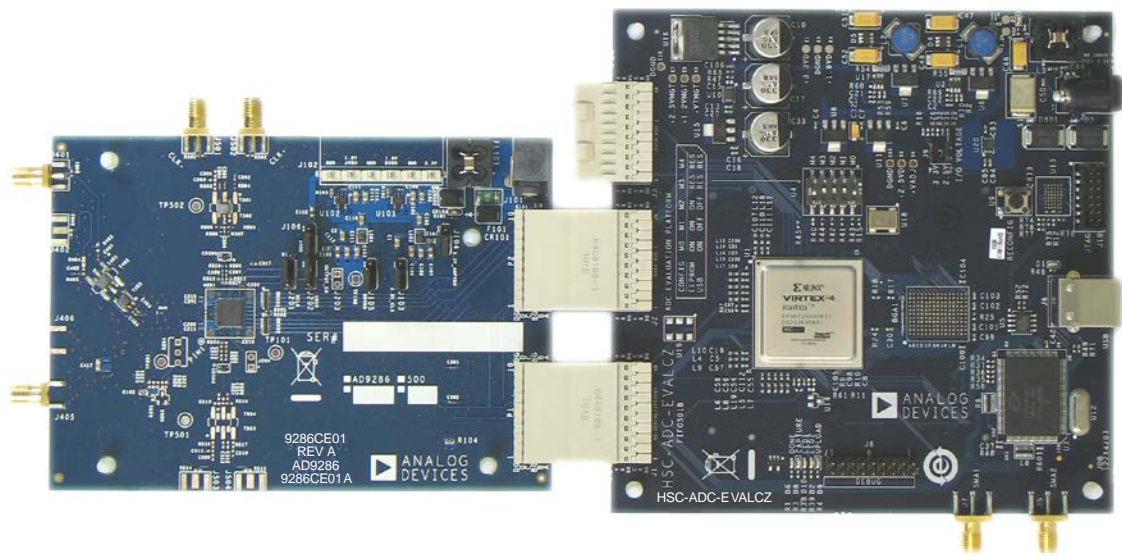
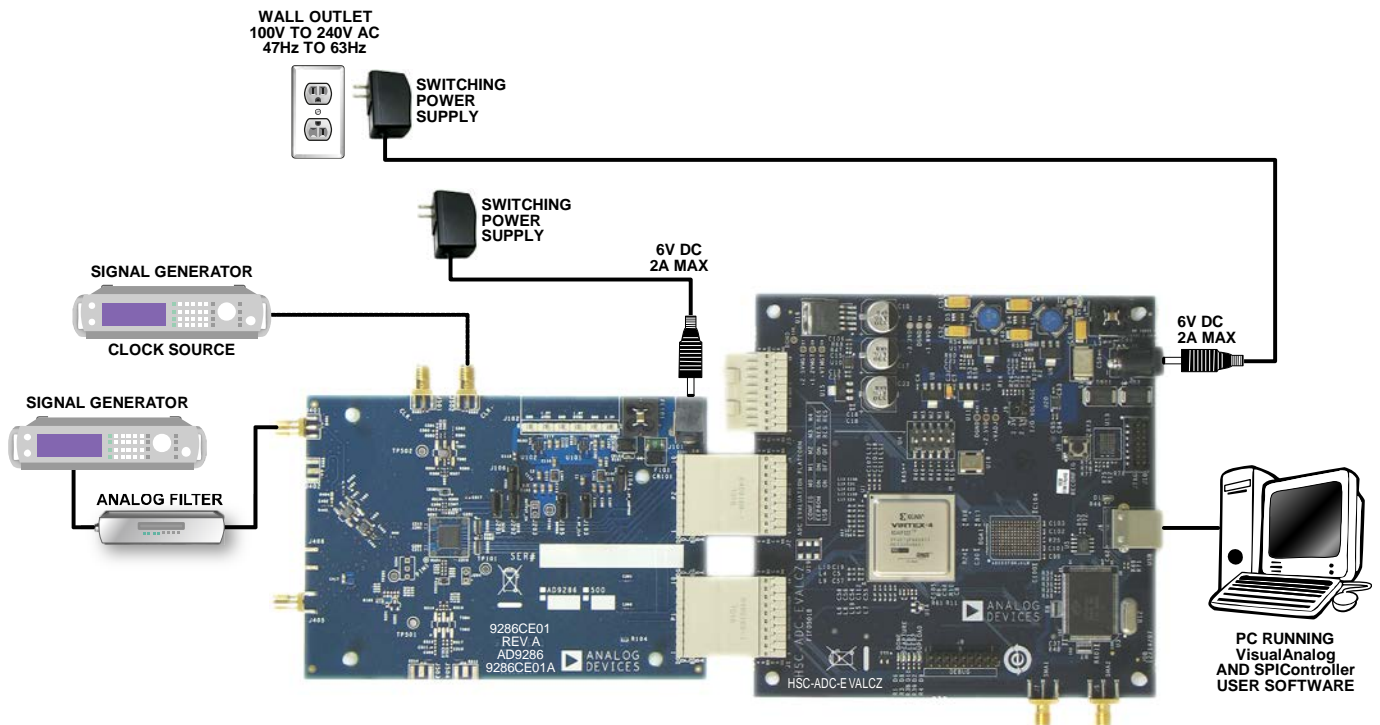

Figure 1. **AD9286** Evaluation Board and **HSC-ADC-EVALCZ** Data Capture Board
Figure 2. Evaluation Board Connection
The AD9286 evaluation board provides all of the support circuitry required to operate the AD9286 in its various modes and configurations. Figure 2 shows the typical bench characterization setup used to evaluate the ac performance of the AD9286. It is critical that the signal source used for the analog input and clock have very low phase noise ( $<1$  ps rms jitter) to realize the optimum performance of the signal chain. Proper filtering of the analog input signal to remove harmonics and lower the integrated or broadband noise at the input is necessary to achieve the specified noise performance.
1. Connect the evaluation board to the data capture board, as shown in Figure 1 and Figure 2.